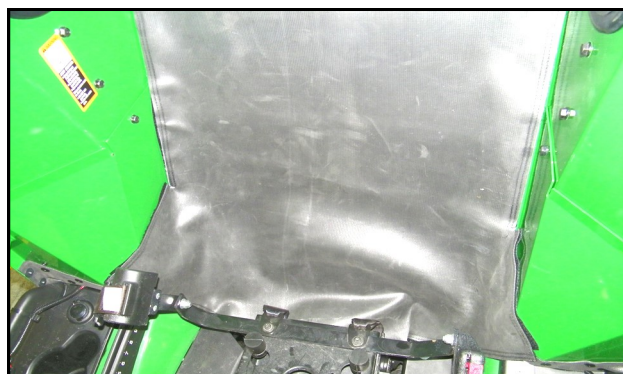

Fig. 24.3 (Install Under Seat Filler)
- 24.3** Remove the release tape a little at a time and stick the filler down as you work your way around. See Figure 24.3.